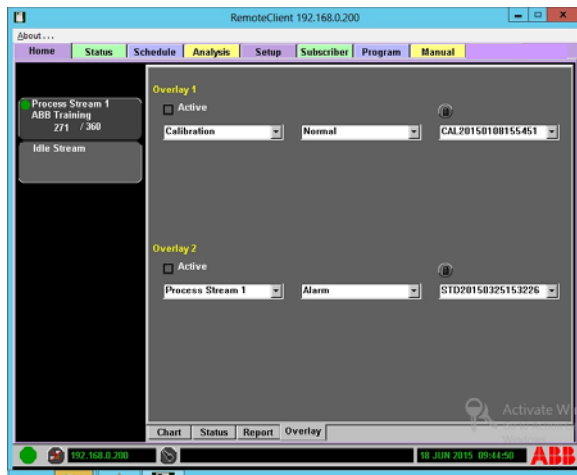

Fig. 6.8. Locked Overlay
2. Unmark the **Previous** box and from the drop down menu select the 'Locked' item (see Figure 6.8).